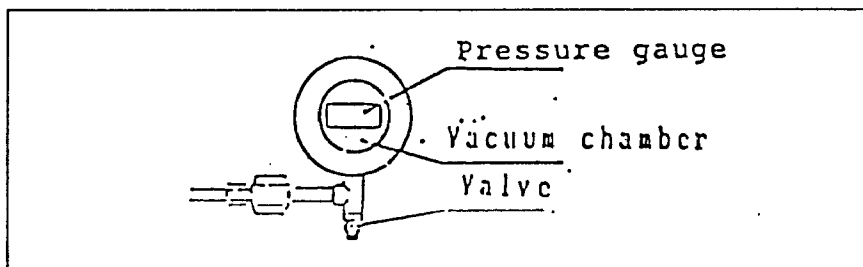

fig. 4 (top view)
2. Close valve at side of vacuum chamber (fig. 4).
- Open valve at side of vacuum chamber (fig. 4).